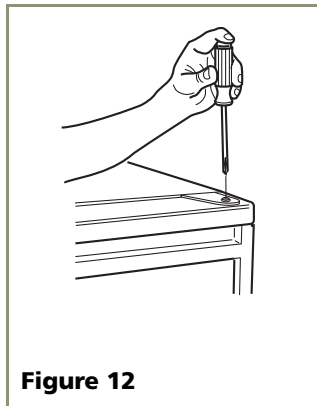

Figure 12
1. Remove top hinge screw pin (using a Phillips screwdriver, see **Figure 12**). Remove door by tilting forward and lifting off bottom hinge pin.